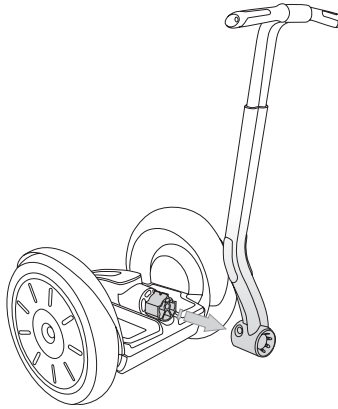

Figure 30. Remove the Handlebar/LeanSteer Frame from the Pivot Base Assembly
- Slide the LeanSteer Frame away from the Pivot Base Assembly as shown in **Figure 30**. Sliding the LeanSteer Frame away from the Pivot Base Assembly should require minimal force.